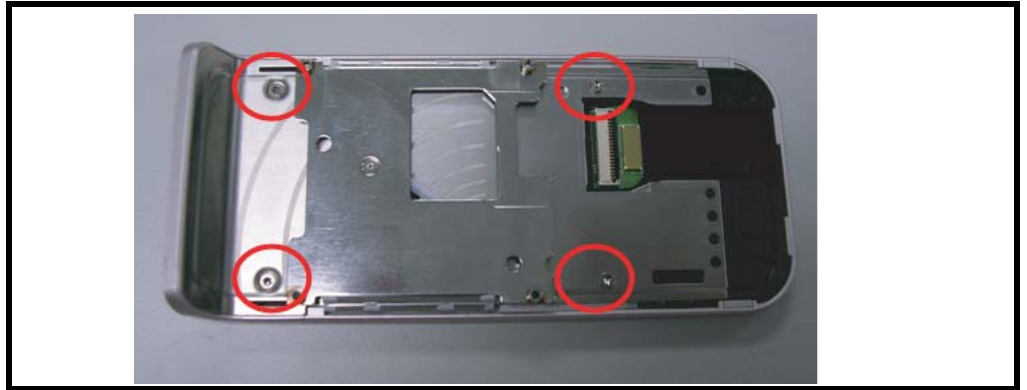

Figure 18. Release 4 screws
2. Remove 4 screws of Upper Module illustrated in the figure 18 by T5 screwdriver.